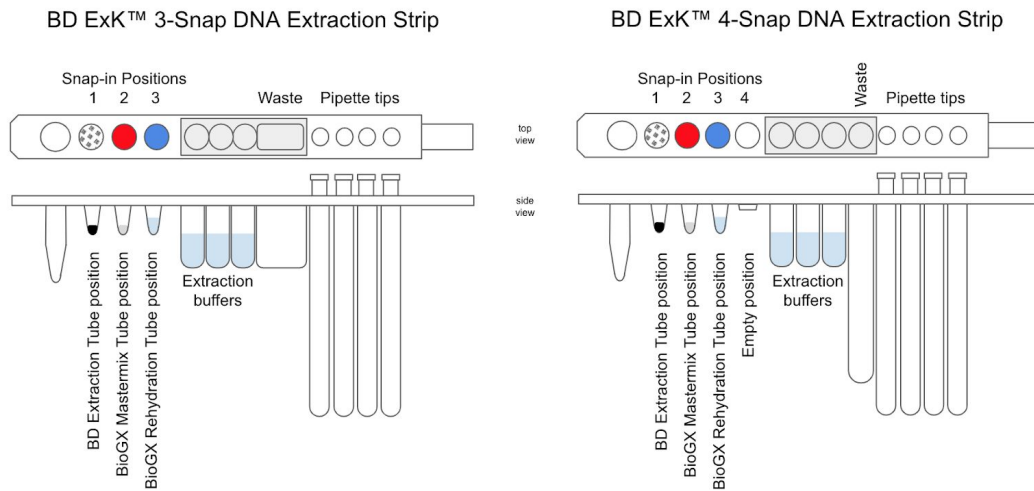

Figure 1 – Diagram of BD MAX™ ExK™ 3-snap and 4-snap Unitized Reagent Strips
4. Snap one BD MAX™ ExK™ DNA-1 Extraction Tube into position 1 (Snap-in 1) of each Unitized Reagent Strip. (See Figure 1)